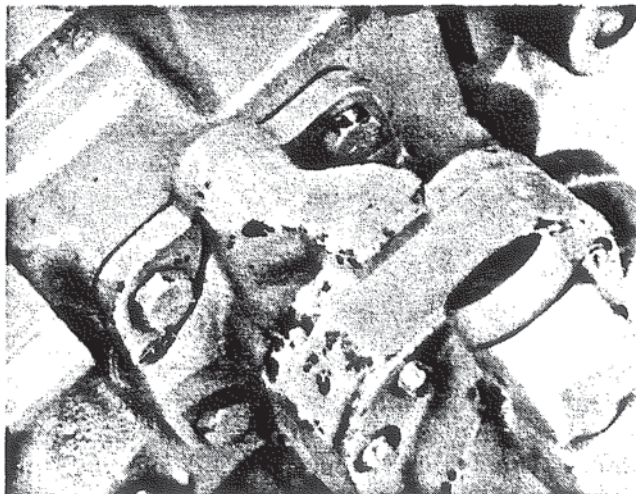

Figure 49. Installing Oil Pump.
4. **Rotation Indicator.** Install the engine rotation indicator plate and secure it to the rear cover with two (2) drive screws if it was removed during disassembly.
5. **Name and Instruction Plate.** Install and secure the name and instruction plate to the top of the main housing with four (4) drive screws.
6. **Oil Pump.** Place an oil pump mounting gasket onto the valve body and secure the oil pump to the valve body with four (4) hex head cap screws (5/16-18 x 3-1/2). Figure 49. Tighten the cap screws to 15-17 ft. lbs. torque.